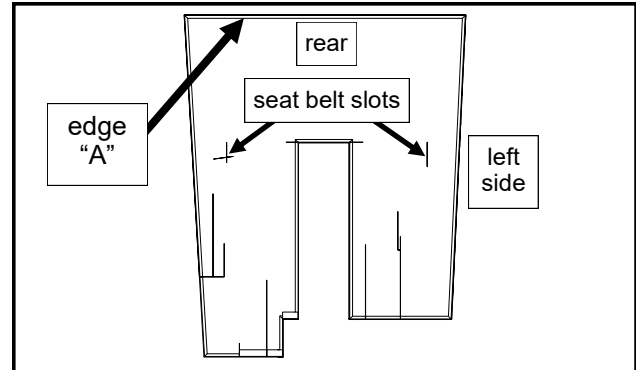

Fig. 16.1a (underseat filler)
**16.1** Move and tip the seat forward. Figures 16.1a and 16.1c thru 16.1e show the under seat filler. Begin by doing a dry fit to get a feel for where all areas fit best (under seat filler edges highlighted in white for clarity). Start by lining up straight edge "A" (in fig. 16.1a) with the bottom of the removable rear panel. Apply the corresponding Velcro where deemed necessary and to match the Velcro on the vinyl filler. Do not cover up any factory decals. *Note: make sure to cut Velcro between the removable rear panel and rear legs. Also, slots are for seat belts to pass through on non-TLB vehicles only.*